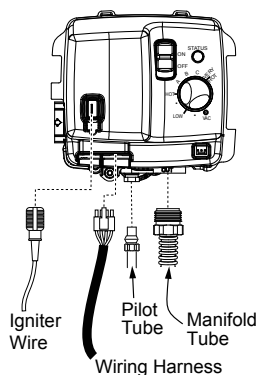

FIGURE 34.
2. Move the ON/OFF switch on the gas control valve/thermostat to the "OFF" position to turn off the water heater. (Figure 34).
- Move the ON/OFF switch on the gas control valve/thermostat to the "OFF" position to turn off the water heater and unplug from the wall outlet. (Figure 34).
5. Disconnect the wire harness, flammable vapor sensor wires, and igniter wire from the gas control valve/thermostat. Disconnect pilot tube (7/16" wrench) and manifold tube (3/4" wrench) at the gas control valve/thermostat (Figure 34). **NOTE:** L.P. Gas systems use reverse (left-hand) threads on the manifold tube